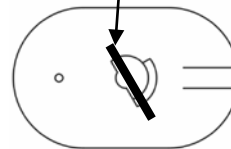

Figure 5
4. Place the cam on top of the cylinder. Make sure the cam is aligned as shown in Figure 5 after installation.